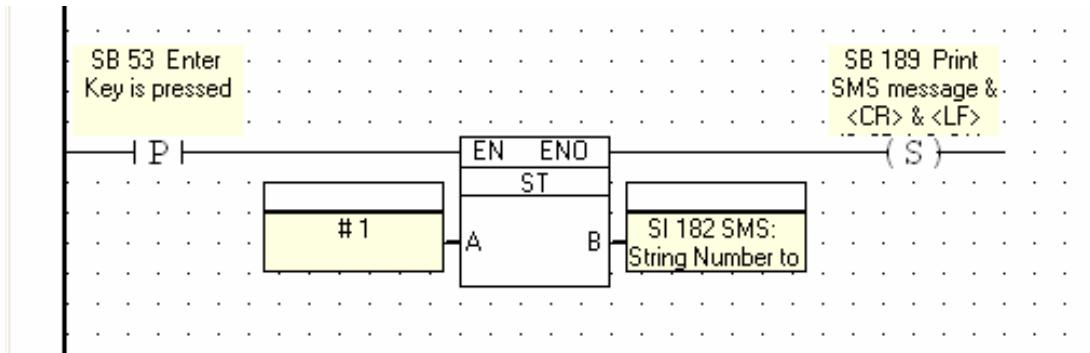

Figure 10: Buttons and objects configured to send the SMS string when the enter key is pressed.
- 6) Next return to the main ladder program by clicking on ‘Ladder’ in the Project Navigation tree in the ‘Program’ folder. Insert the objects shown in Figure 10 and assign the proper variables, integers and system integers.